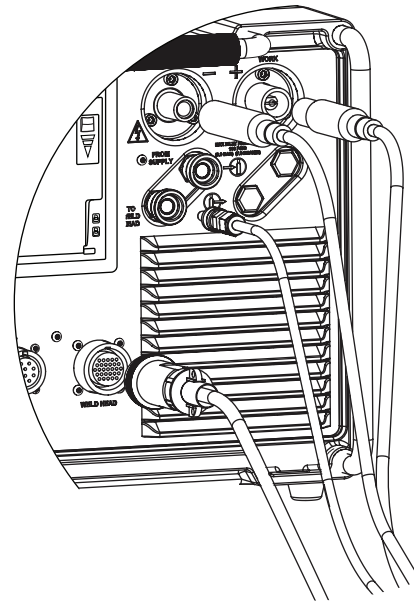

Fig. 8—Connecting the Weld Head Assembly to the Power Supply
1. Align the notch on the weld head quarter-turn connector with the small tab in the M200 power supply socket labeled **WELD HEAD** (Fig. 8) and insert the connector. Turn it clockwise to lock it in place. An audible click indicates that the connection is locked. This connection provides the control signals to drive the weld head.